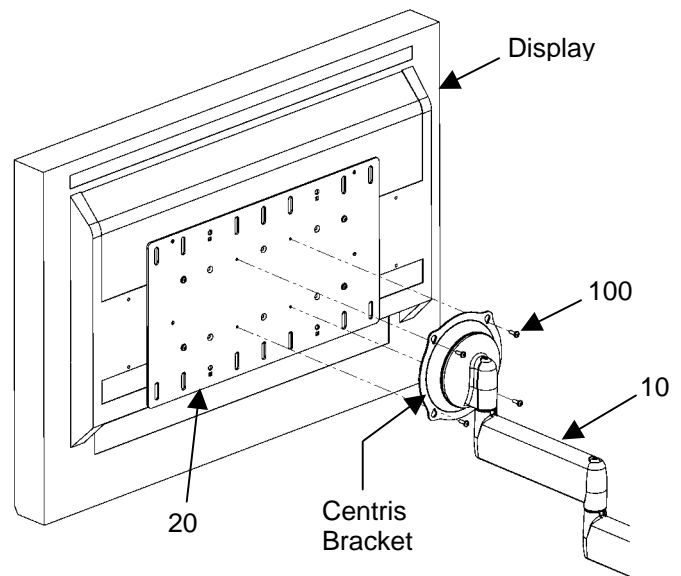

Figure 17. Attach Display to Mount
1. Select four Phillips head M4 x 8mm screws (100) from Bag A.
2. Start two M4 x 8mm screws (100, Bag A) into top mounting holes on display (see Figure 17).
4. Install two remaining M4 x 8mm screws (100) from Bag A into the bottom mounting holes on the display.